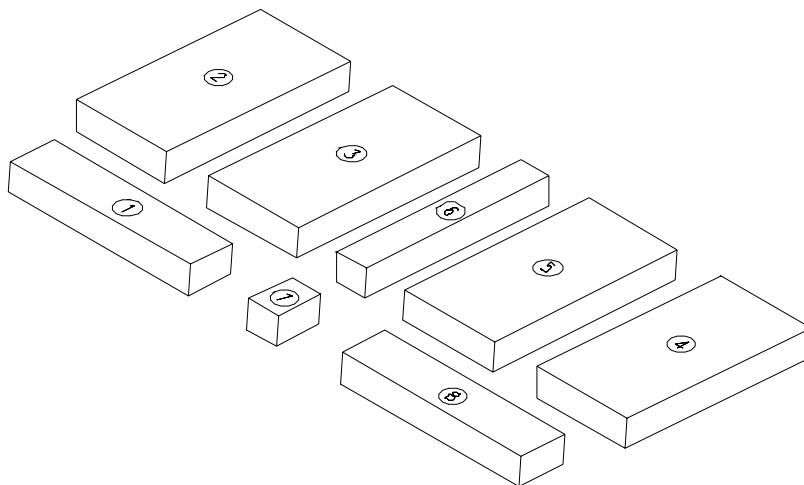

Figure 4.1g
- To install the remaining front bricks, slide the small middle brick #7 (see fig 4.1g) over the front of the support (H) locate it in the middle and repeat with brick #8 (see fig 4.1g).
- Additional illustration showing order of installation of baffle bricks in unit (see fig 4.1g).